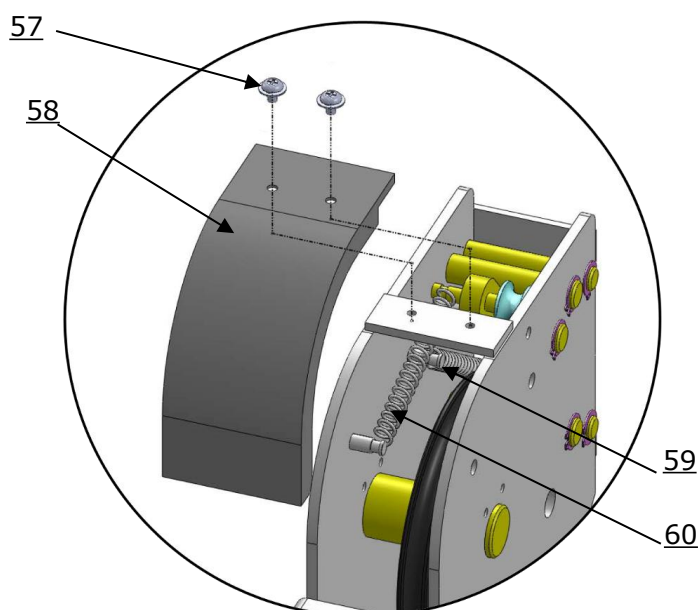

Fig.34
N. Install spring and safety cover of cross beam (See Fig. 34).